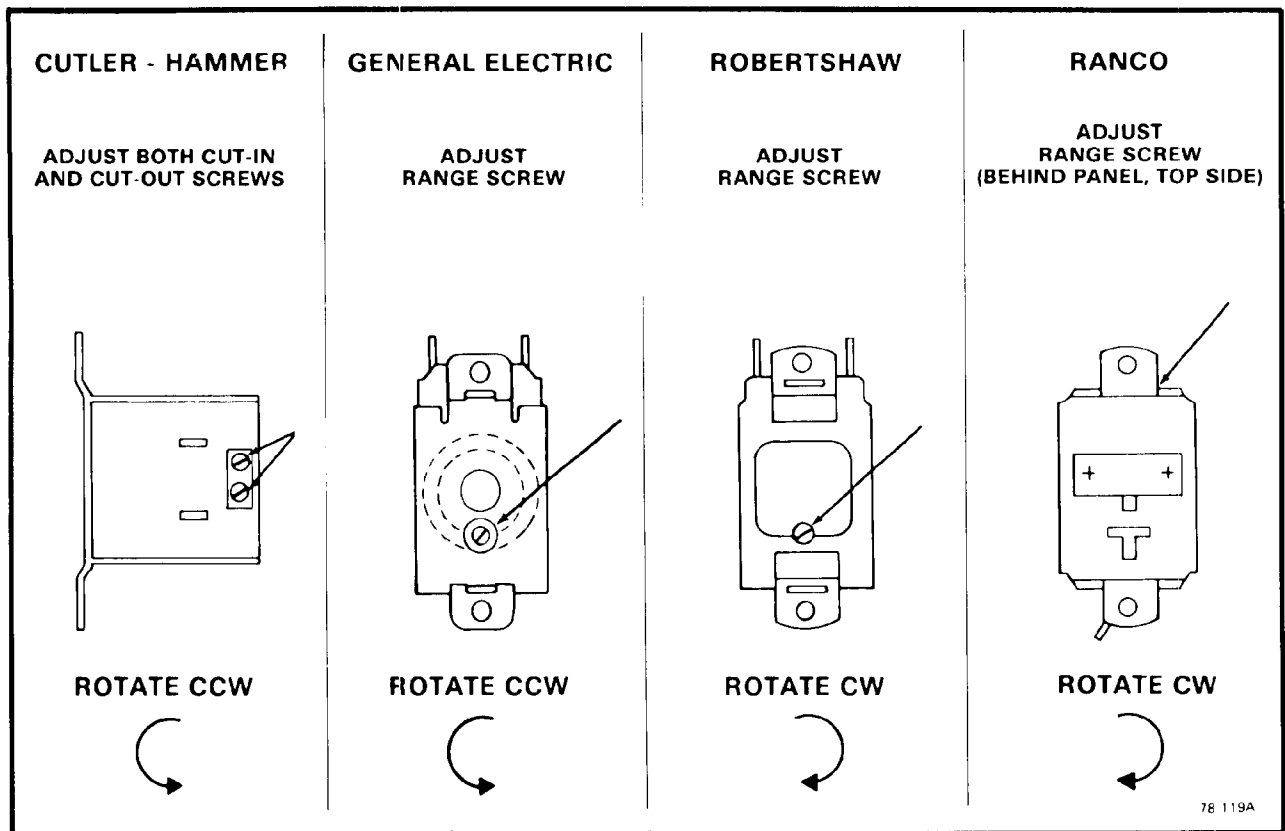

Figure 4-1. Adjustment of the Temperature Control.
See Figure 4-1 for location and direction of rotation, clockwise (CW) or counterclockwise (CCW), of the adjusting screw on the Temperature Control, in the particular Control Box the adjustment is to be performed.